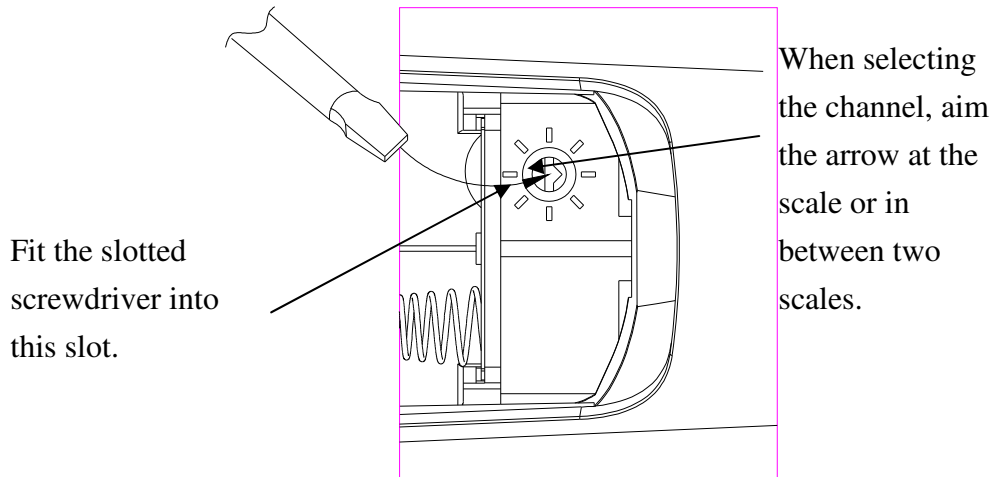

Figure 4.4
- 4.4.2 When changing the channel, it is not necessary to turn the power off. Open the battery cover, and the channel switch is located next to the battery compartment. There are 8 channel scales on the switch (as shown in the figure 4.4), and another 8 channels can be selected in between scales.